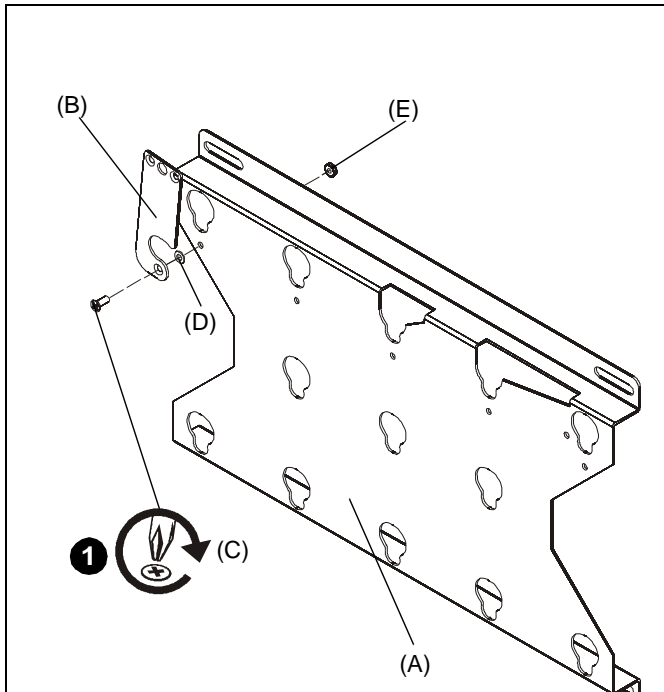

Figure 1
1. Attach latching flag (B) to mount (A) using #10-24 x 1/2" Phillips flat head screw (C), spacer (D) and nylock nut (E). Tighten until friction will hold the flag in place. (See Figure 1)